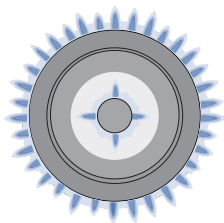

Figure 14: A lit double ring burner
3. Visually check that both inner and outer rings for the Double Ring burner are lit (See Figure 14). Once lit, push in the control knob and turn counterclockwise out of the Lite position and adjust to the desired flame size.